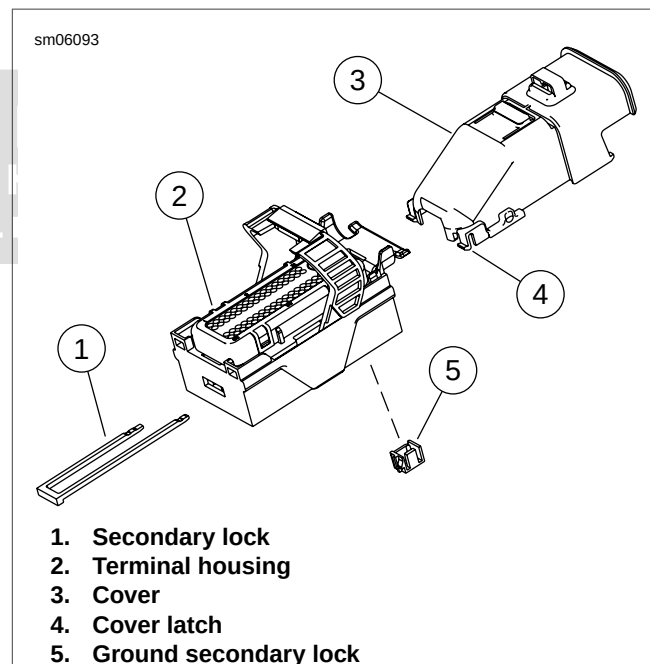

Figure A-23. Delphi 73-Terminal ECM Connector
2. See Figure A-23. Release latches (4) that retain cover (3) to housing (2) and remove cover.
1. See Figure A-23. Remove secondary lock (1).
Secondary lock has one short leg and one long leg. Be sure to install correctly as shown in Figure A-23.
6. See Figure A-23. Install ground secondary lock (5) and install secondary lock (1) as shown.